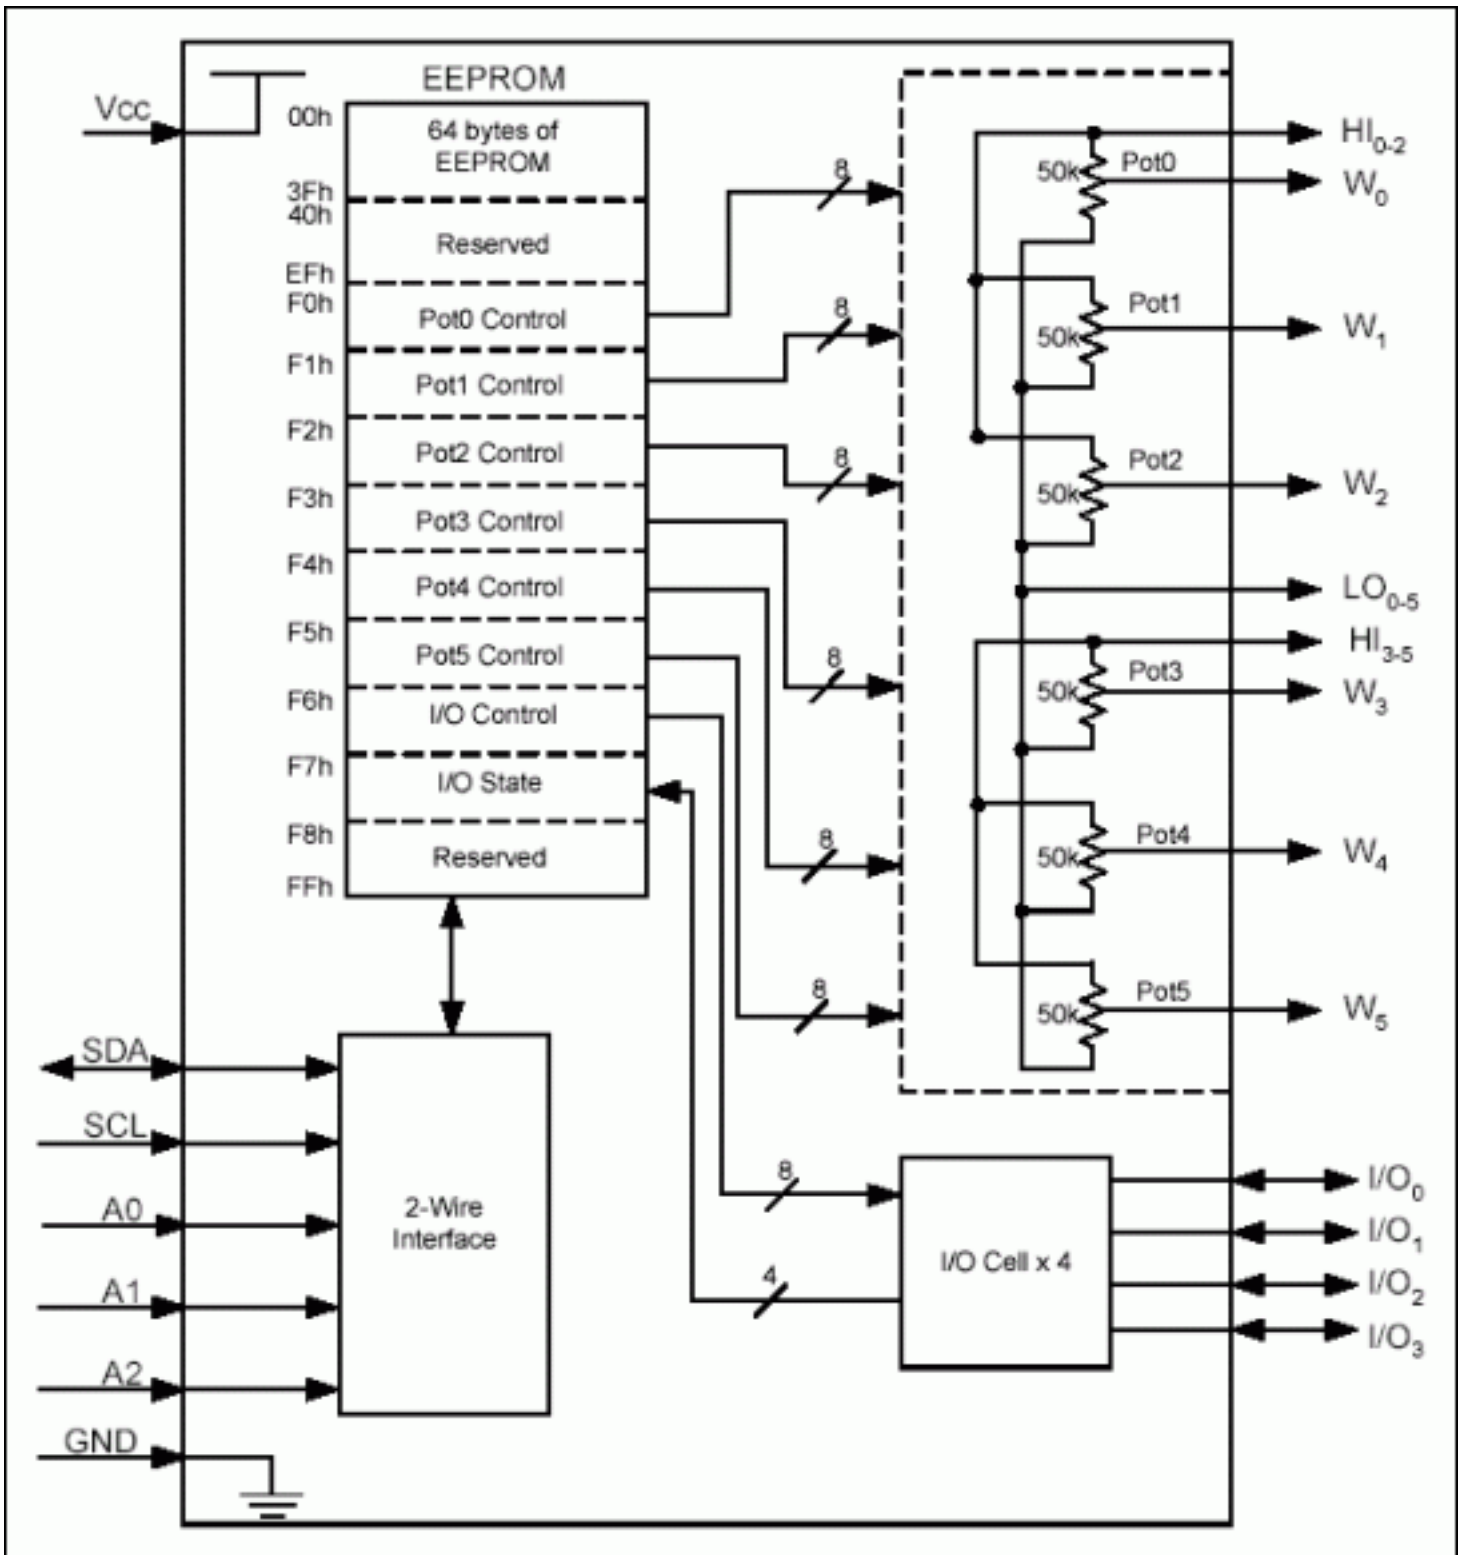

Figure 1. DS3930 block diagram.
The DS3930 contains six 256-position nonvolatile (NV) potentiometers (see **Figure 1**), which makes the DS3930 an ideal device for applications needing multiple voltage references. All six potentiometers share a common low side. The potentiometers are separated into two groups of three 50k $\Omega$  potentiometers in parallel. Each group of three shares a common high side. The potentiometer wiper voltage can vary between 0V and  $V_{HI}$  in 256 steps, where  $V_{HI}$  is the voltage on HI0-2 or HI3-5.